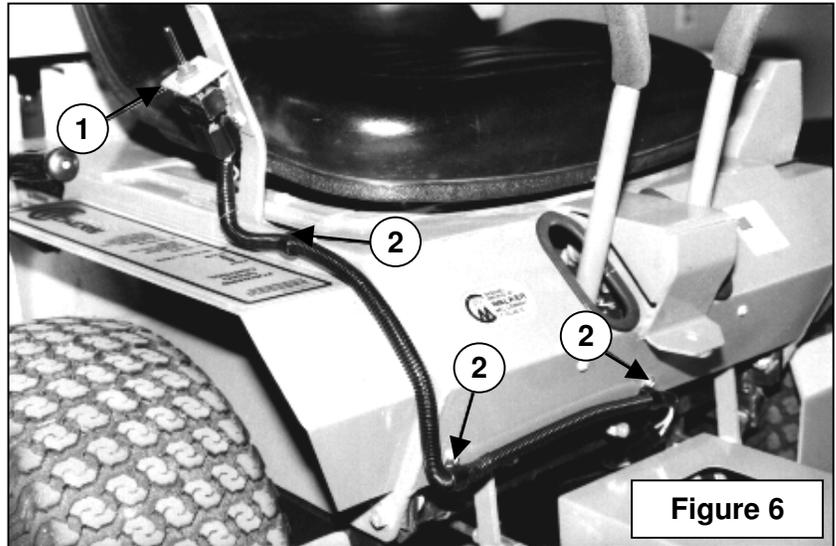

Figure 6
4. **Figure 6:** Attach the toggle switch mounting bracket (item 1) on the forward speed control arm using two 10—24 x 1/2" bolts and kept nut. At this time, you need to connect the green ground wire from the wiring harness to a bolt of the switch mounting bracket.
5. **Figure 6:** Install the wiring harness to the tractor body as shown using three wiring clamps (item 2), three 10— 24 x 3/8" bolts and kept nuts.